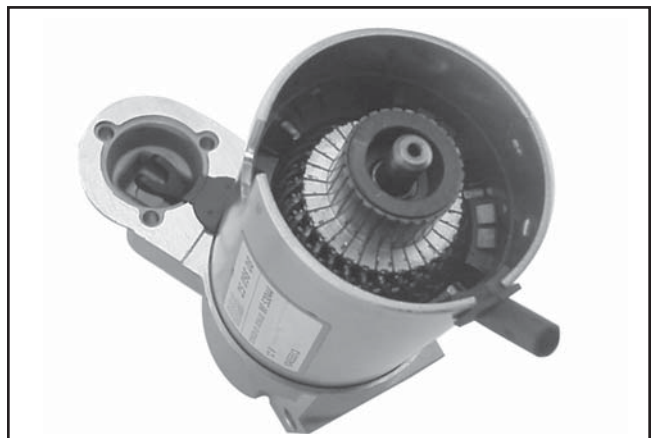

Figure 7-28. Installing Frame and Drain Tube.
8. Install the frame, with the small notch forward, onto the armature and drive end cap. Align the notch with the corresponding section in the rubber grommet. Install the drain tube in the rear cutout, if it was removed previously. See Figure 7-28.